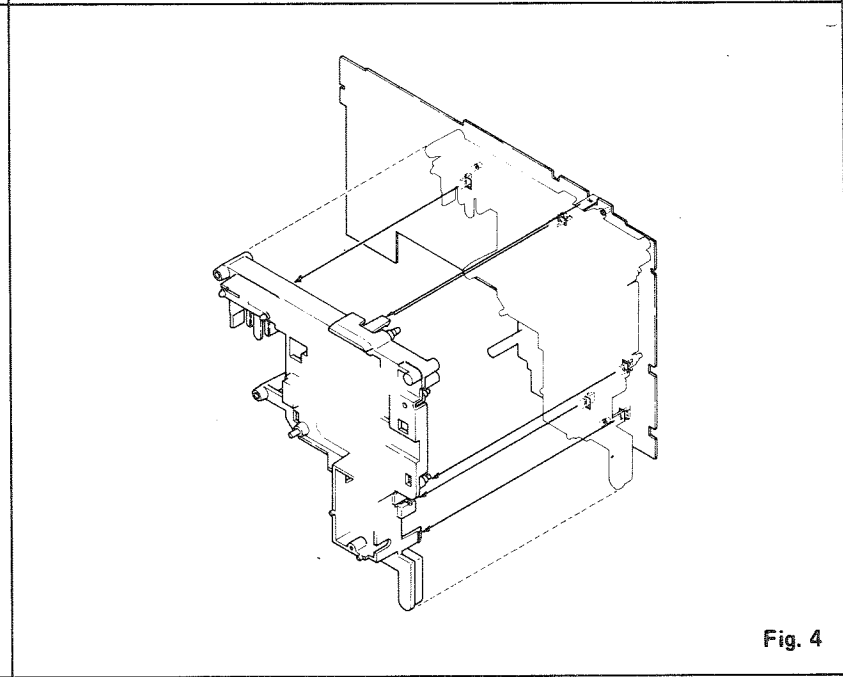

Fig. 4
4. Disassemble the chassis (#18) with its six catches disengaged from the circuit board, after removing a hex. head screw (#28). (Refer to Fig. 4)